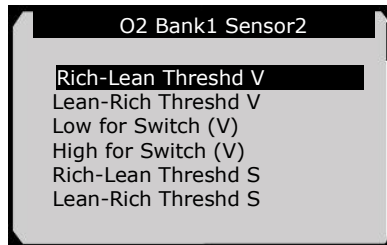

Figure 6.26
- 4) View test results of selected O2 sensor (Figure 6.26).